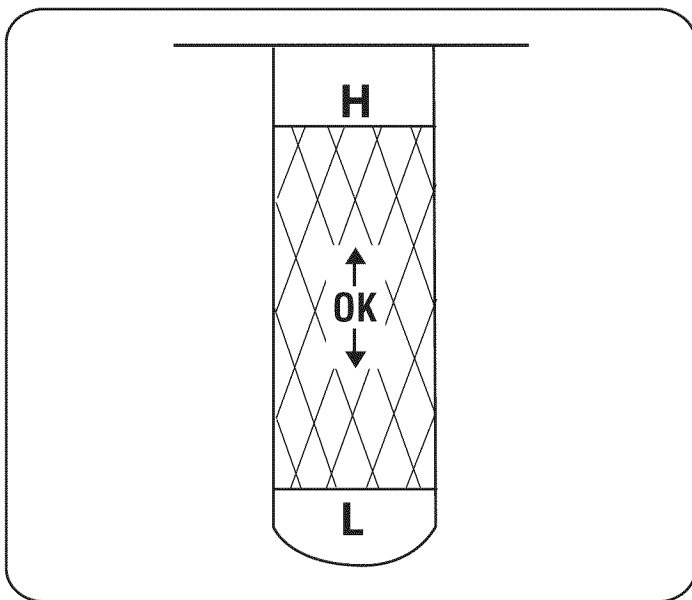

Figure 4
3. Slowly add oil until the oil level registers between high (H) and low (L) on the dipstick, Figure 4. Refer to the Service and Maintenance section for the correct oil viscosity and engine oil capacity.